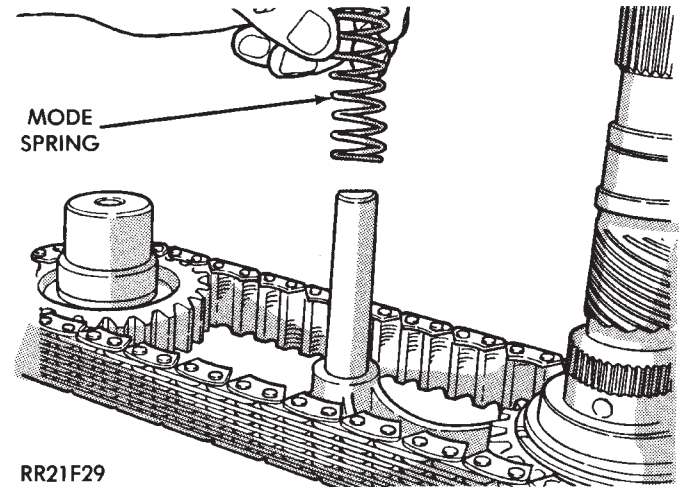

Fig. 63 Installing Mode Spring On Shift Rail
(10) Install mode spring on shift rail (Fig. 63).